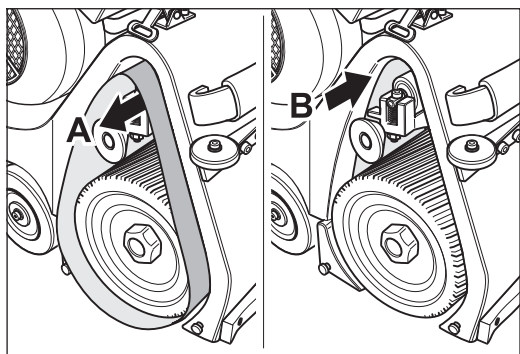

Fig. 41 If the sanding belt runs in direction of **A** or **B**, the setting of the sanding belt tracking is necessary.
- 5 If the sanding belt runs to the front (in direction of **A** in Fig. 41) or to the back (in direction of **B** in Fig. 41) the setting of the sanding belt tracking is necessary (→ *Section 7.3.2, Setting the sanding belt tracking*). If the sanding belt tracking is alright, mount the side cover.
If the sanding belt is running out of true (in direction of **A** or **B** in Fig. 41), it must be turned around and another test performed.
If the sanding belt runs to the front (in direction of **A** in Fig. 41) and after turning over runs to the back (in direction of **B** in Fig. 41) or vice versa, the sanding belt is of poor quality and is not usable (conical sleeve)!